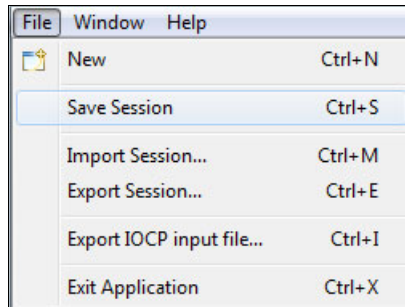

Figure 8-97 CMT - Save session
3. Select **File** → **Save Session** (Figure 8-97 on page 490).